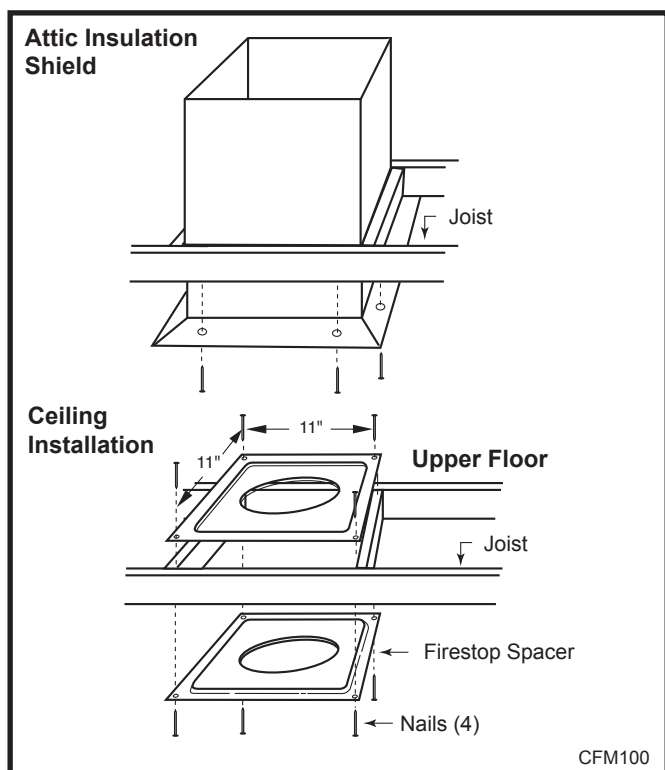

Fig. 38 Place firestop spacer(s) and secure.
6. Place firestop(s) #7DVFS or Attic Insulation Shield #7DVAIS into position and secure. (Fig. 38)
! If there is room above ceiling level, firestop spacer must be installed on both the bottom and the top side of the ceiling joists. If an attic is above ceiling level a 7DVAIS (Attic Insulation Shield) must be installed. (Fig. 38)